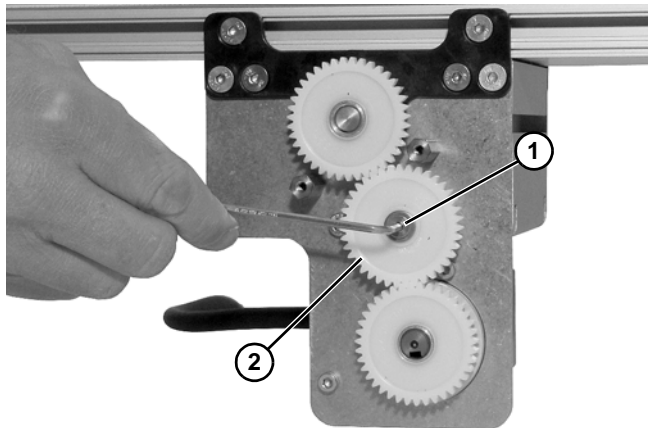

Figure 14
8. Remove screw (Figure 14, item 1) and washer from center gear (Figure 14, item 2).